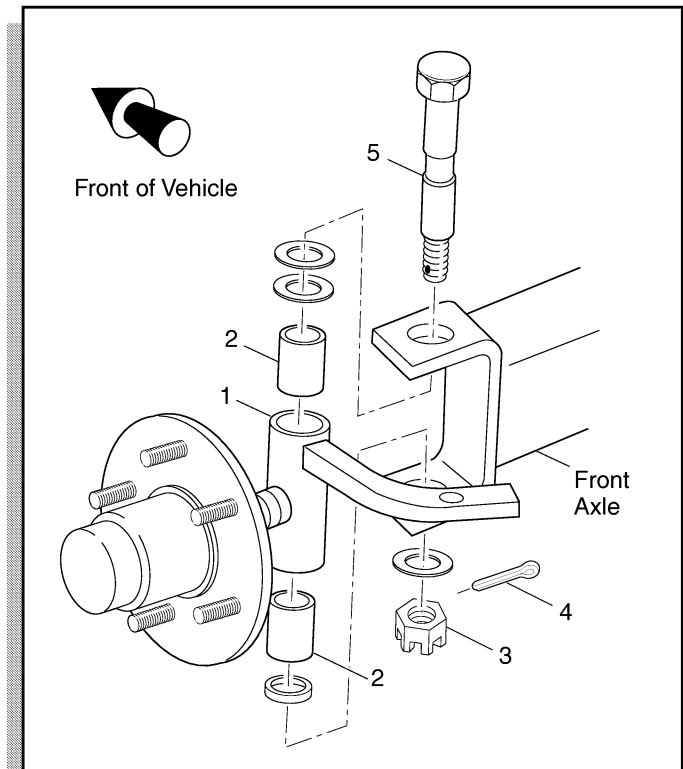

Fig. 6 King Pin Bushing Replacement
Remove the spindle assembly (1) and clean the king pin bushings (2) with solvent (Ref Fig. 6 on page E-4). If the inside diameter of the bearings are worn to .880" (22.35 mm) or greater, replacement is necessary.